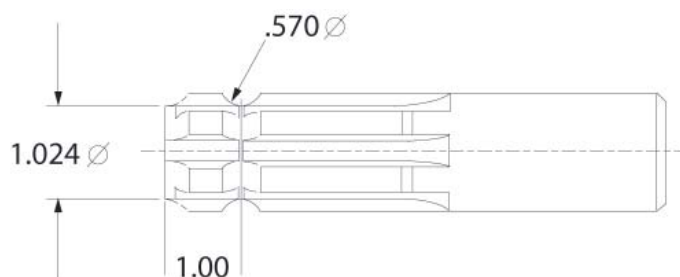

Figure 4, Grooving the drive shaft
2. **OEM DRIVESHAFT (25' & 35' HEADERS):** Remove and key the drive shaft. The 5/16" keyway should start 23.5" from the bearing and run for a span of 16". Groove the end of the shaft according to Figure 4, so the PTO can lock onto the drive shaft.
3. **OEM DRIVESHAFT (30' HEADERS):** Remove and key the drive shaft. The 5/16" keyway should start 16.63" from the bearing and run for a span of 16". Groove the end of the shaft according to Figure 4, so the PTO can lock onto the drive shaft.